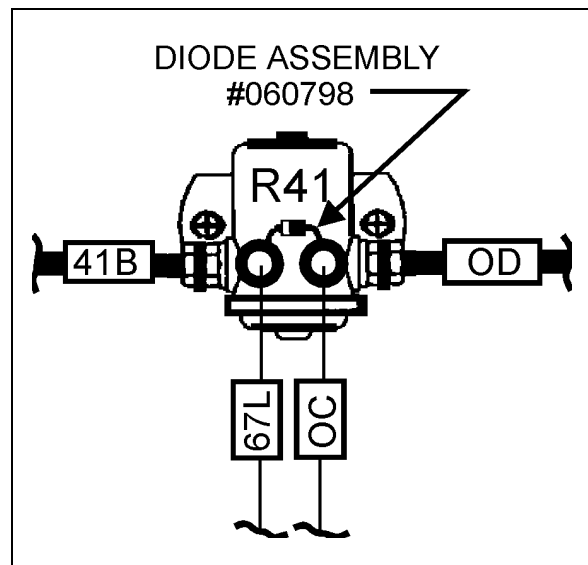

FIGURE 6
11. Strip extremity of wire #41B, crimp a ring terminal (#561246) then connect to relay R41 as illustrated in figure 6. Tighten nut to 40 lbf•in maximum.
13. Position diode assembly (#060798) on relay R41 as illustrated in figure 6, strip extremity of wire #67L, crimp a ring terminal (#560815) then connect to relay R41. Tighten nut to 20 lbf•in maximum.
Caution: Ensure to correctly position diode assembly as illustrated in figure 6.